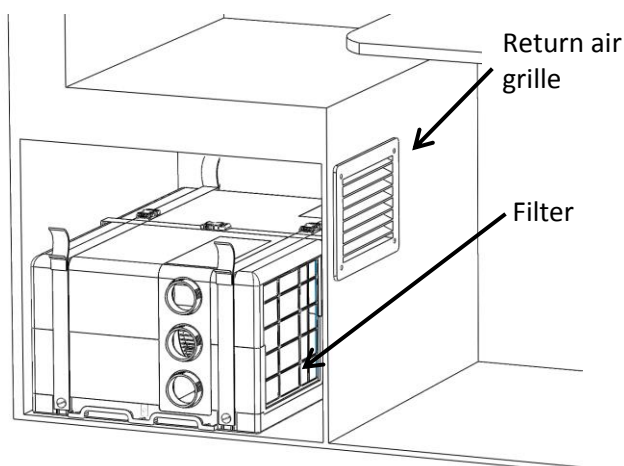

Figure 1-Preferred orientation of the unit where the filter is on the same side and close to the return air grille
- The filter side of the Sandpiper should face the open side of the seat/bed where the return air grille is (Figure 1)